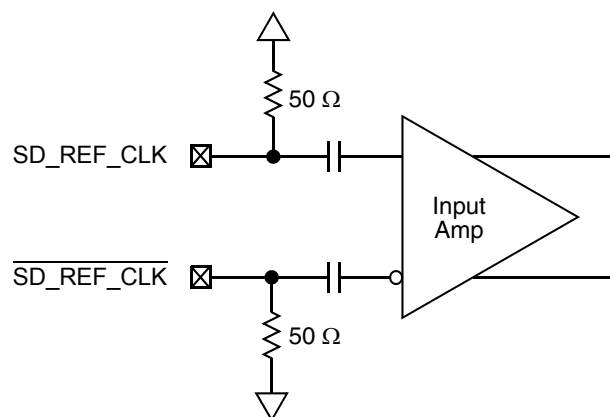

Figure 39. Receiver of SerDes Reference Clocks
Figure 39 shows a receiver reference diagram of the SerDes reference clocks.
- The SD_REF_CLK and $\overline{\text{SD_REF_CLK}}$ are internally AC-coupled differential inputs as shown in Figure 39. Each differential clock input (SD_REF_CLK or $\overline{\text{SD_REF_CLK}}$) has a 50- Ω termination to SGND_SRDSn (xcorevss) followed by on-chip AC-coupling.